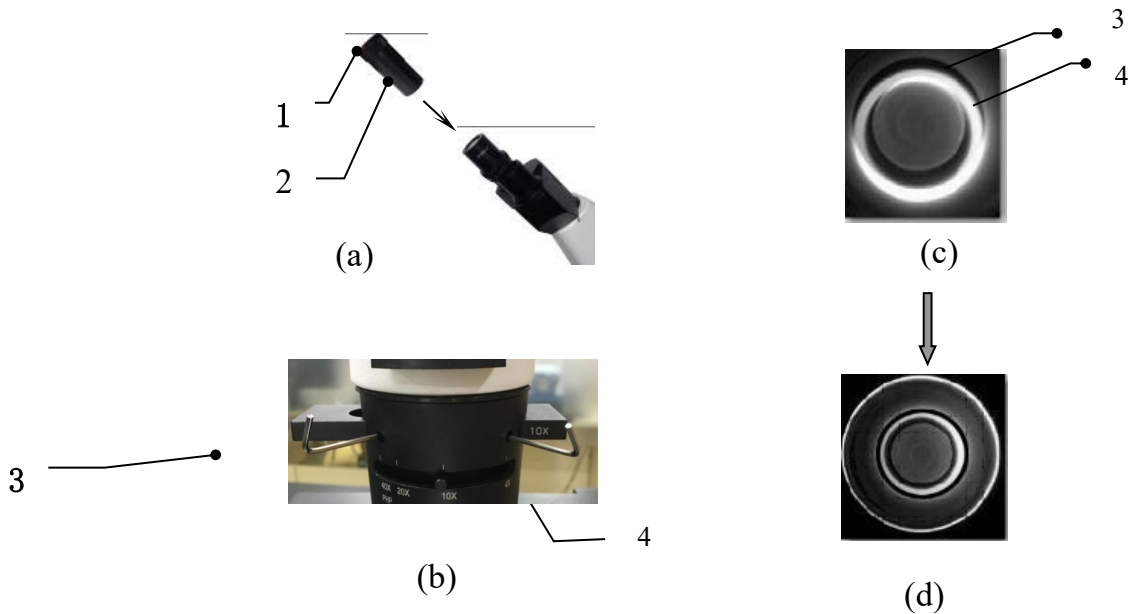

Figure 13
1) Take out one of the eyepieces, insert the centering eyepiece 2 into the lens as figure 13-a.
2) A dark ring 5 and a bright ring 6 would appear in the field as figure 13-c.
4) Adjust the plate as figure 13-c shows if the two rings do not coincide with Allen wrench 3. Adjust screw 4 if it is a pull-plate one. See figure 13-d.